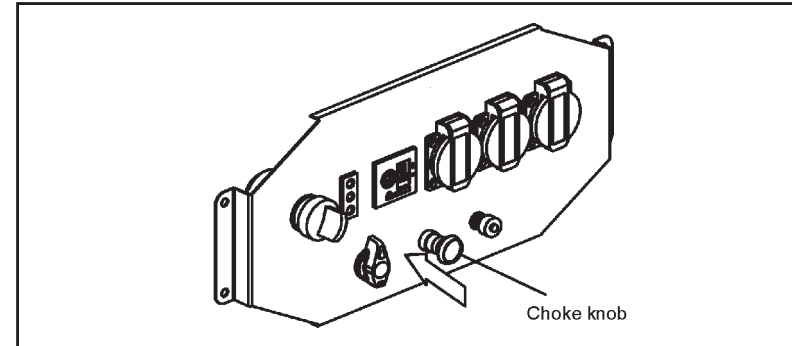

Fig.10 Choke knob opening view
4.5 Push the choke knob to the OPEN position as the engine warms up, see Fig.10.